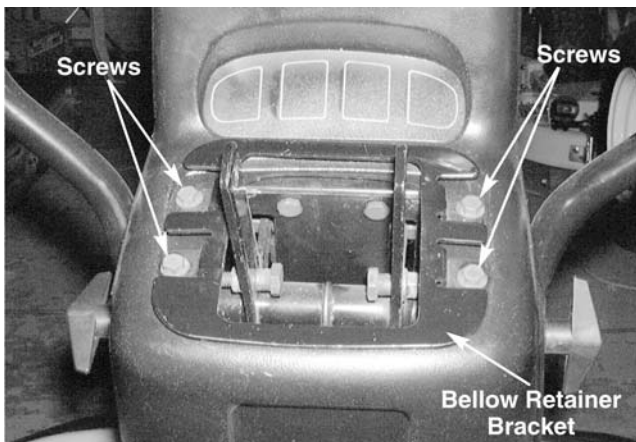

Figure 10-3.
- Remove all four hex washer head screws securing the bellow retainer bracket to the top of the support tower using a 3/8 socket. See Figure 10-3.